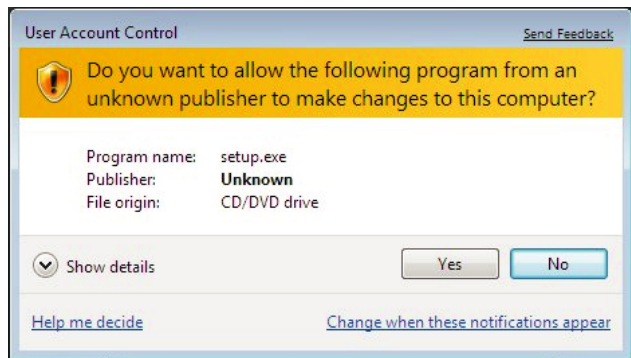

Figure 3. User Account Control Dialog Box
3. A dialogue box appears asking for permission to allow the program to make changes to the PC (See Figure 3). Click **Yes**.